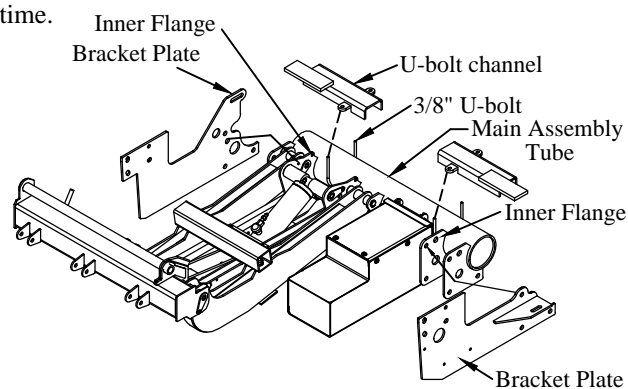

Figure 6: Bracket plate locations.
7. **Install** the bracket plates on the inner flanges of the main assembly using six (6) 5/8" x 1-1/4" bolts, lock washers, and lock nuts. Bolt head and lock washer should be on the USA passenger side (Figure 6).
8. **Install** the U-bolt channel assemblies on the main assembly tube using the 3/8" U-bolts, flat washers, lock washers, and nuts (Figure 6). Do not tighten at this time.